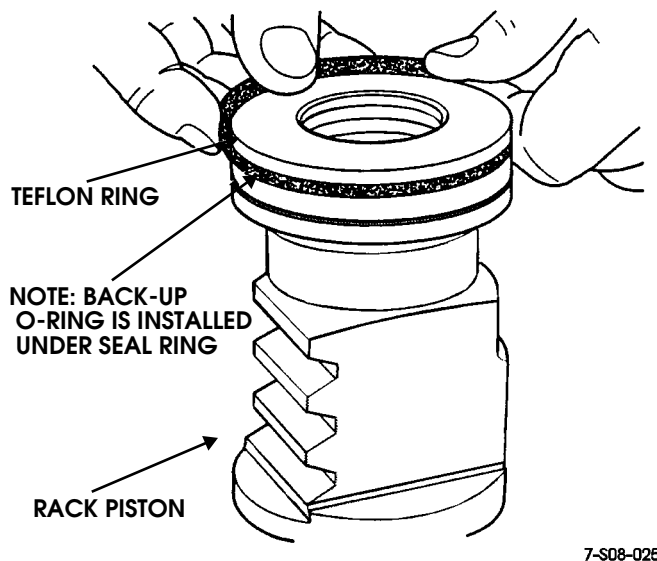

Figure 8-51: Rack Piston Seal Ring Installation
3. Install new teflon seal ring in groove **over** backup O-ring (Figure 8-51).